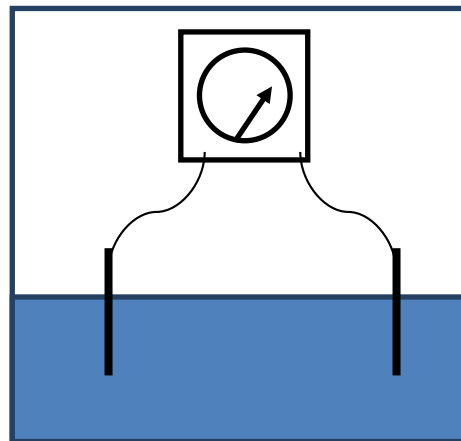

Figure 1. A simple conductivity testing setup.
Figure 1 shows a simple conductivity probe setup.
- 3. Figure 1 (on the previous page) shows a ready-made conductivity sensor with two probes immersed into a solution. What types of materials should the probes be made of? Explain why.**